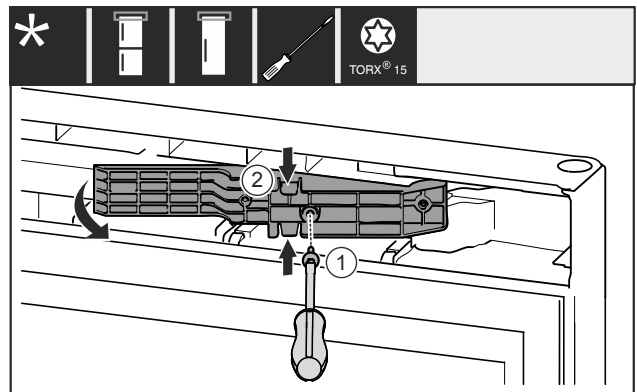

Fig. 14 \*
- ▶ Remove the screw Fig. 14 (1)\*
- ▶ Gently press the top and bottom of the adapter piece Fig. 14 (2) together and pull it out.\*